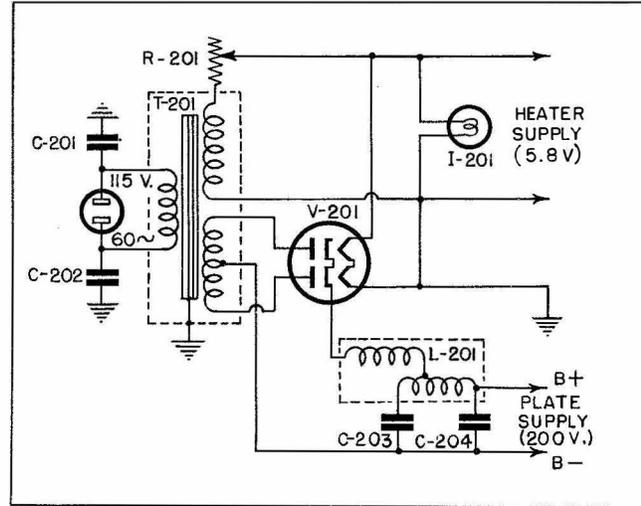

Figure 4-17—Schematic Diagram of the Rectifier Power Unit (Type CFD-20080-A)
a. The Rectifier Power Unit (Fig. 7-13) is of conventional design and furnishes (from the 115-volt, single-phase, 60-cycle mains) all plate and heater voltages required by the Signal Generator Unit. Its principal features are shown schematically in Figure 4-17.
e. Inspection of Figure 4-17 will show that when the equipment is operated from a line having one side "grounded", a small leakage current can flow through one of the by-pass capacitors to the Rectifier Power Unit cabinet and then to ground through any circuit that happens to be connected between the cabinet and ground. The current is very small (about 80 microamperes at most) because the impedance of the capacitor is so great at 60 cycles. Nevertheless, it is sufficient to make a small spark when the ground connection is broken. Also, a slight and entirely harmless shock can be experienced by an operator who happens to touch a grounded object and the cabinet simultaneously.